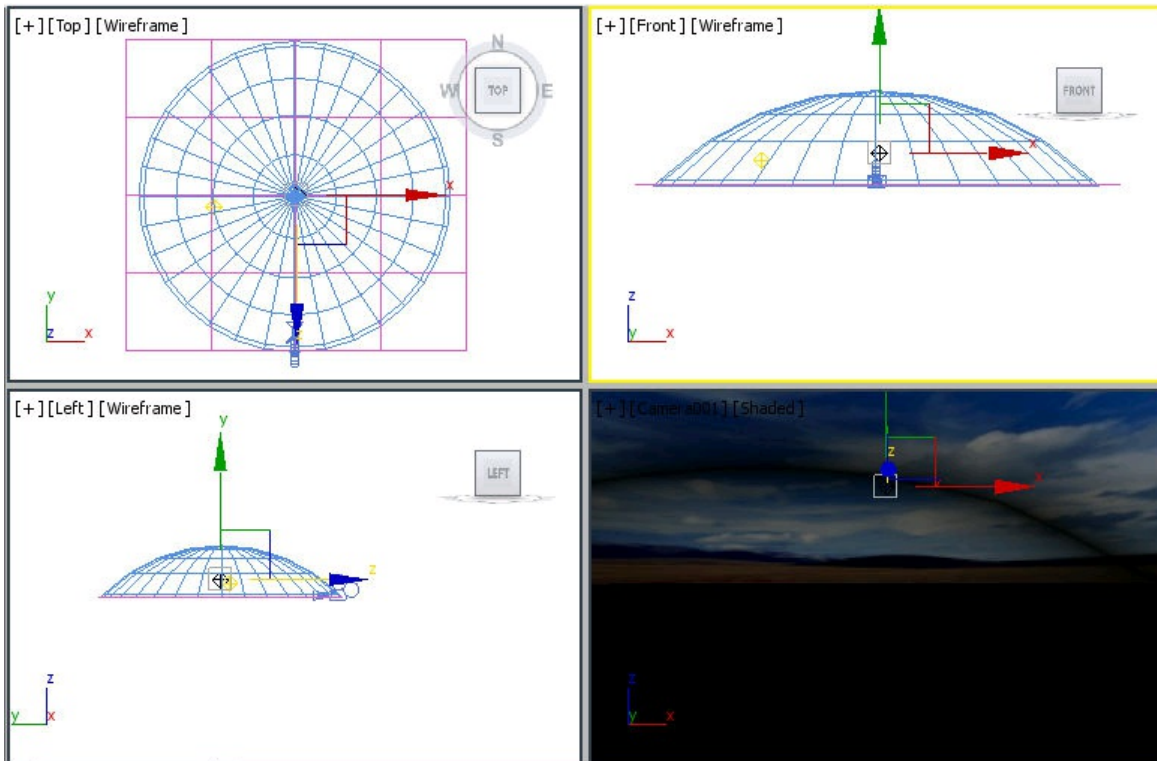

Figure 13-61 Alignment of Omni002 in the viewports
4. Create one more omni light at the center of *background* in the Top viewport. It is automatically named as *Omni002*. Now, align *Omni002* in all viewports, as shown in Figure 13-61.